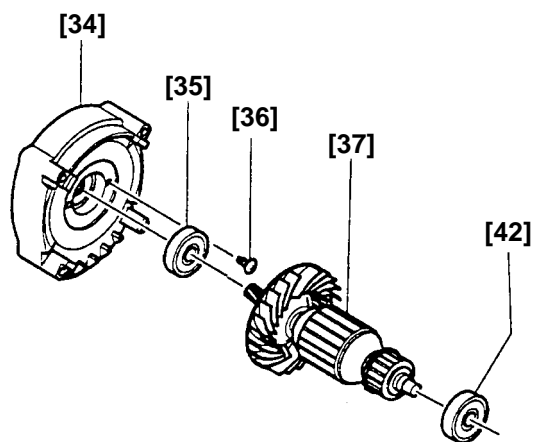

Fig. 7
(5) Removal of Inner Cover (B) [34] and Armature Ass'y [37] (Fig. 7)
The Armature Ass'y [37] may come off the Ball Bearing 6001VVCMP2L [35] when removing the Armature Ass'y [37] from the Housing [43]. To prevent it, press-fit the Armature Ass'y [37] to the Ball Bearing 6001VVCMP2L [35] before reinstalling the Armature Ass'y [37] to the Housing [43] (Fig. 7).